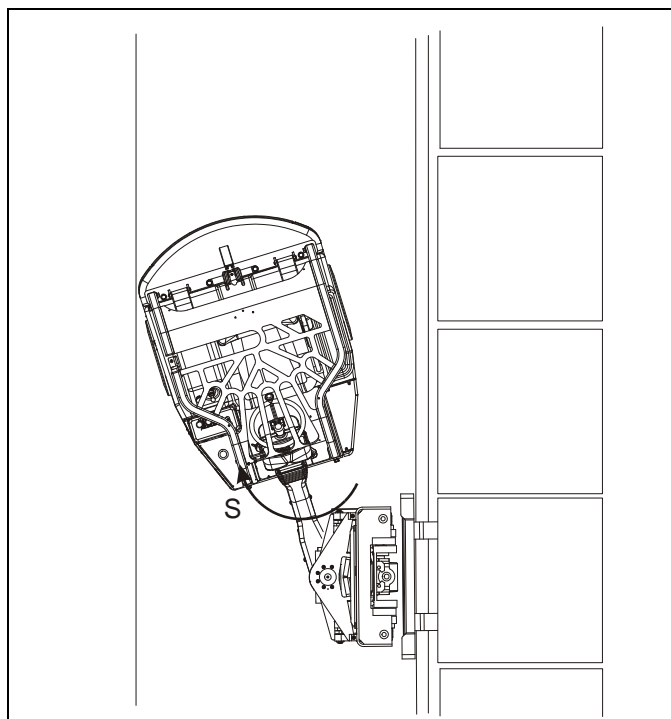

Figure 4-23: Inserting the Load
8. Turn the steering wheel to keep the load straight as you drive it into the opening. See Figure 4-23.